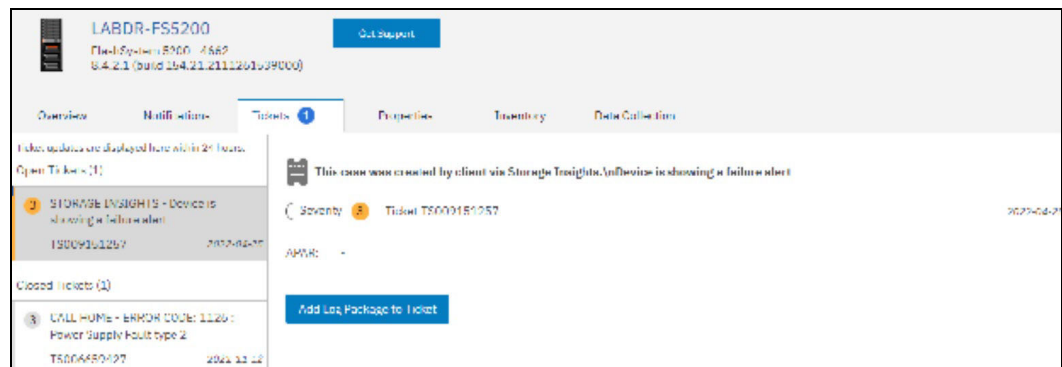

Figure 11-21 Support ticket summary
- Figure 11-21 shows how to view the summary of the open and closed ticket numbers for the system that is selected by using the **Action** menu option.